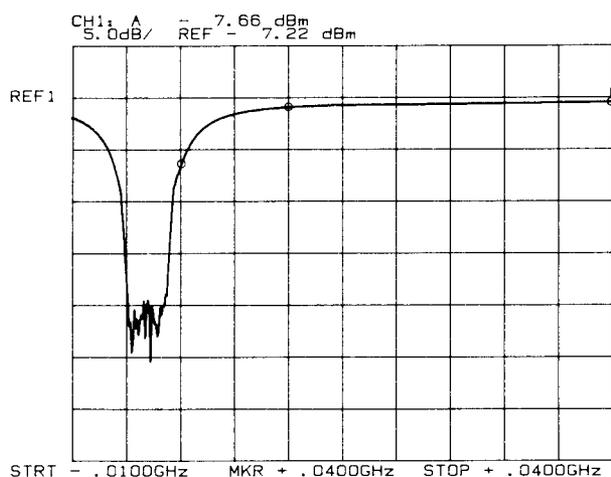

Figure 4-2. Trace Before Adjustment
- On the HP 8756A Channel 2, press **[SHIFT] [MEAS RATIO]** to turn Channel 2 off. On Channel 1, press **[MEAS PWR]** until the **A** LED is on. Press **[REF]** until the **POSN** LED is on, and use the step keys or knob to move the **REF POS** one line down from the top CRT graticule. Press **[SHIFT] [SCALE]**. A response dip similar to Figure 4-2 should be visible on the display. This dip is formed because the sweeper is a hetrodyned source (in Band 1), sweeping through low frequencies where it is incapable of generating output power. The middle of this response dip is the "ZERO FREQUENCY" point.